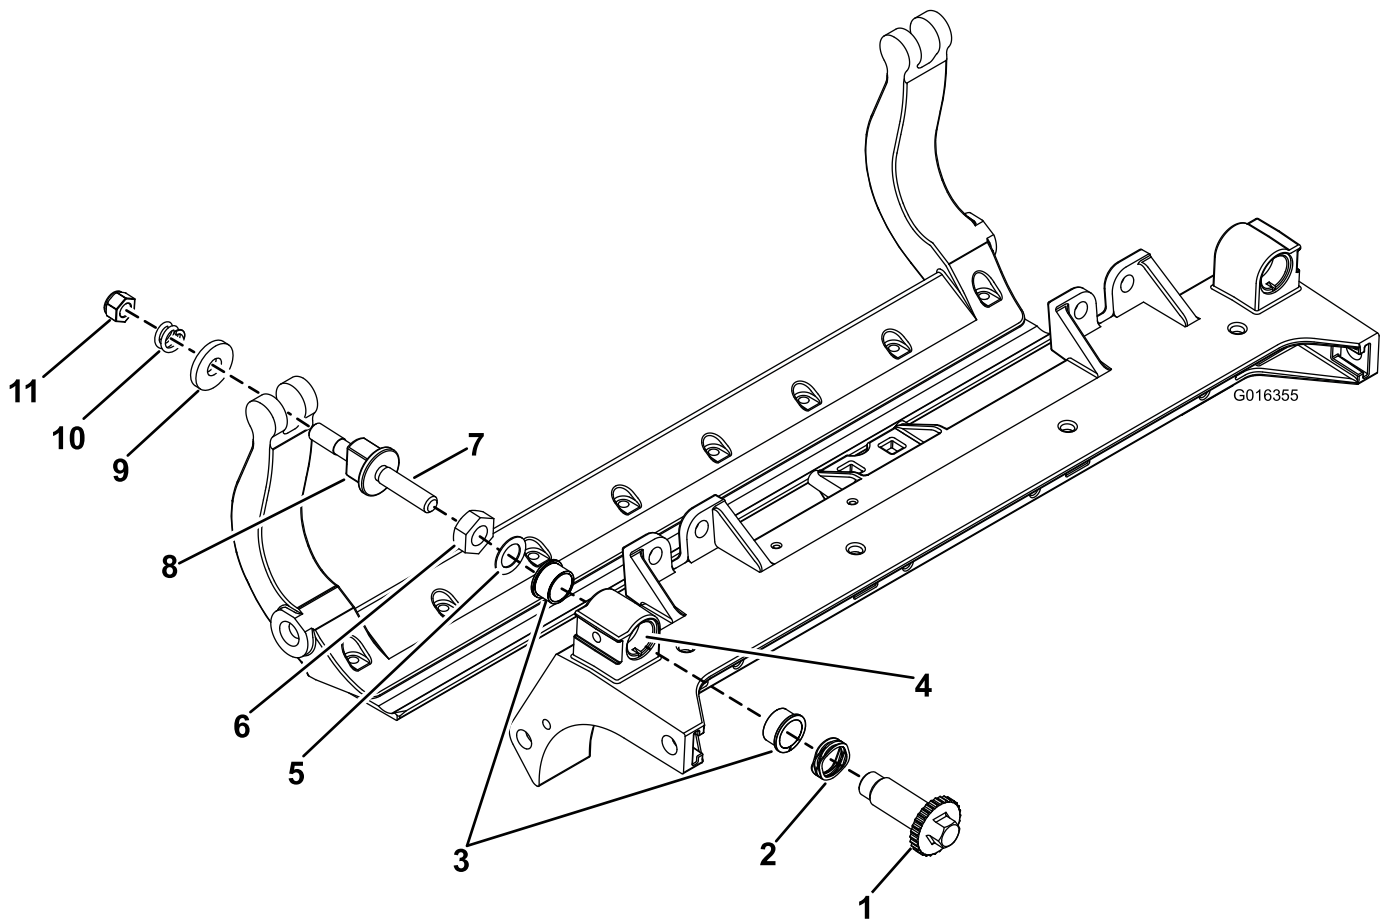

Figure 35
- B. Place a steel washer outside each of the nylon washers (Figure 35).
1. Remove all parts; refer to *Installation Instructions* for HD DPA Kit Model 120-7230 and to Figure 35.
2. Apply anti-seize compound to the inside of the bushing area on the center cutting unit frame (Figure 35).
3. Align the keys on the flange bushings to the slots in the frame and install the bushings (Figure 35).
4. Install a wave washer onto the adjuster shaft and slide the adjuster shaft into the flange bushings in the frame of the cutting unit (Figure 35).
5. Secure the adjuster shaft with a flat washer and a locknut (Figure 35). Torque the locknut to 20 to 27 N·m (15 to 20 ft-lb).